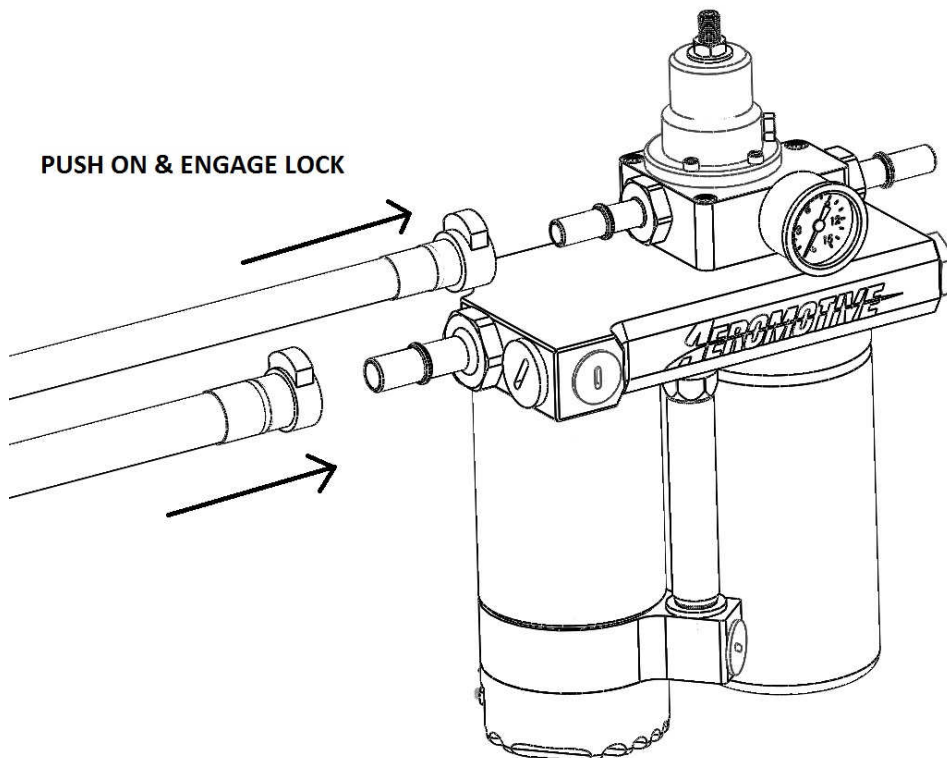

FIGURE 1-2
3. Now attach the feed and return lines to the pump. Route the lines as such to take out excess length. **FIGURE 1-2**